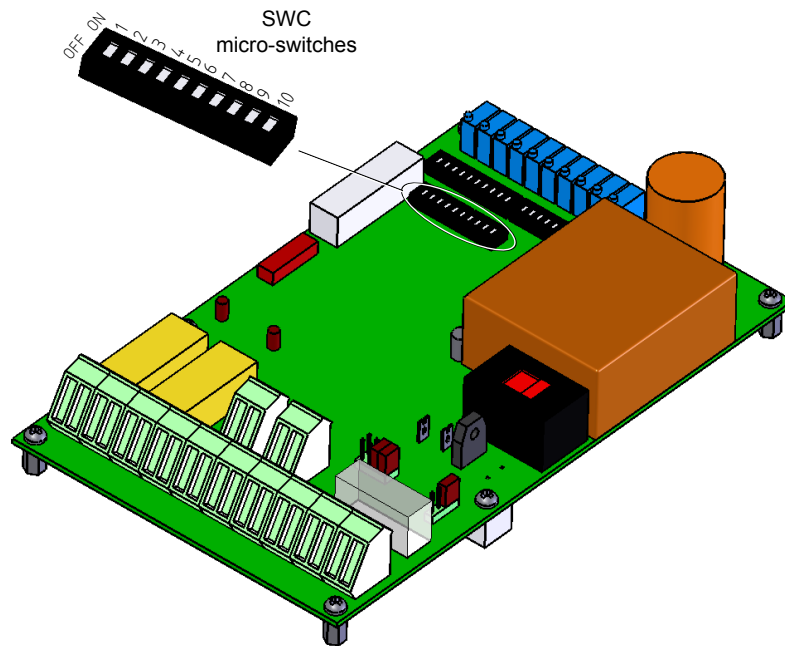

Fig. 3–2 Location of the micro-switches SWC on the load monitoring unit board
5. Adjust the potentiometer P4 to get a reading of $U_{O/P \text{ known}}$ with an accuracy of $\pm 10 \text{ mV}$. *Figure 3–1* indicates where the potentiometer P4 is located.
4. Adjust the potentiometer P10 to get a reading of $I_{O/P \text{ know}}$ with an accuracy of $\pm 50 \mu\text{A}$. *Figure 3–1* indicates where the potentiometer P10 is located.
- The micro-switch SWB9 (see figure 3–3) must be ON to activate the test signal.
- To adjust the detection thresholds U_{level1} and U_{level2} place the micro-switches SWC3 and SWC4 (see figure 3–2) on ON.
- To adjust the detection thresholds U_{level3} and U_{level4} , connect $U_{O/P level3}$ and $U_{O/P level4}$ to $U_{O/P}$ and check that the test signal transits through C1 (see Appendix A) after having plugged in the jumpers JP37 and JP38. Figure 3–4 indicates the location of these jumpers.